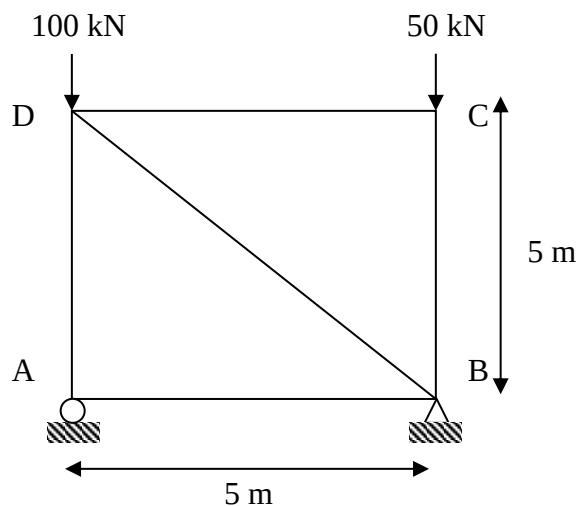

Figure 4(a) / Rajah 4(a)
- CLO2 (a) A statically determinate truss is subjected to an external load as shown in Figure 4(a). Given cross-sectional area, A for all members is 200 mm^2 and Young Modulus, E is $210 \times 10^6 \text{ kN/m}^2$. Identify the value of reaction at each support of this truss.
- CLO2 (b) Determine the vertical displacement at joint C in Figure 4(a) by using the Virtual work method. The internal force for each member of the truss is due to vertical 1 unit load at joint C as given in Table 4(b).